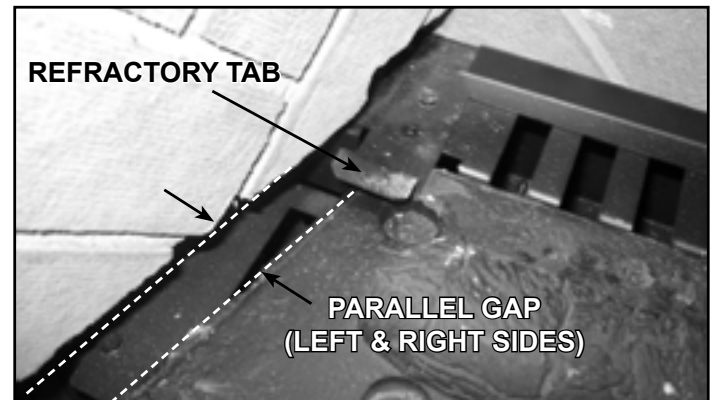

Figure 10.6 Place Left Side Refractory
3. Repeat the same process for the left side panel. When side refractory pieces are installed properly, the gap between the refractory and the burner should be parallel. See Figure 10.6.